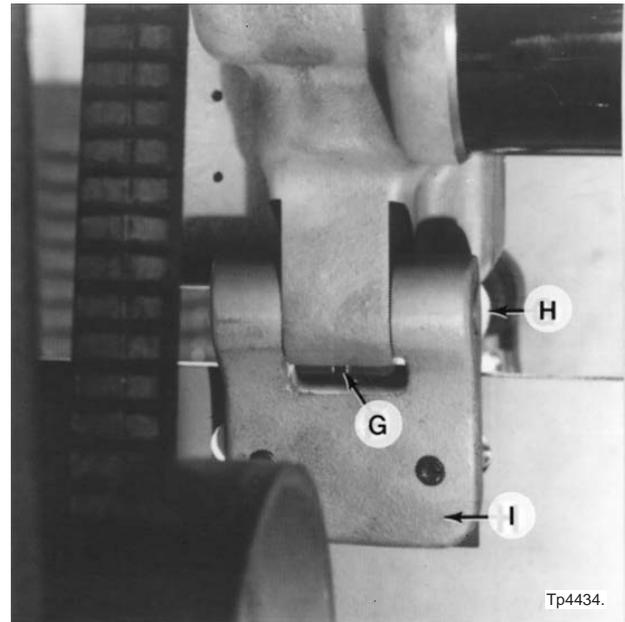

Figure 3.28 - Speed Change Mounting Bracket (Rear View)
Do not disturb mounting bracket "I", Figure 3.28, which is factory adjusted for alignment.
14. Remove set screw "G", Figure 3.28 .
2. Support the speed change mechanism and install pin “H”, Figure 3.28 .